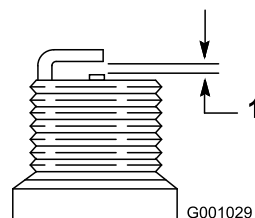

Figure 57
4. Set the gap between the electrodes on a new spark plug at 0.030 inch (0.76 mm) (Figure 57).